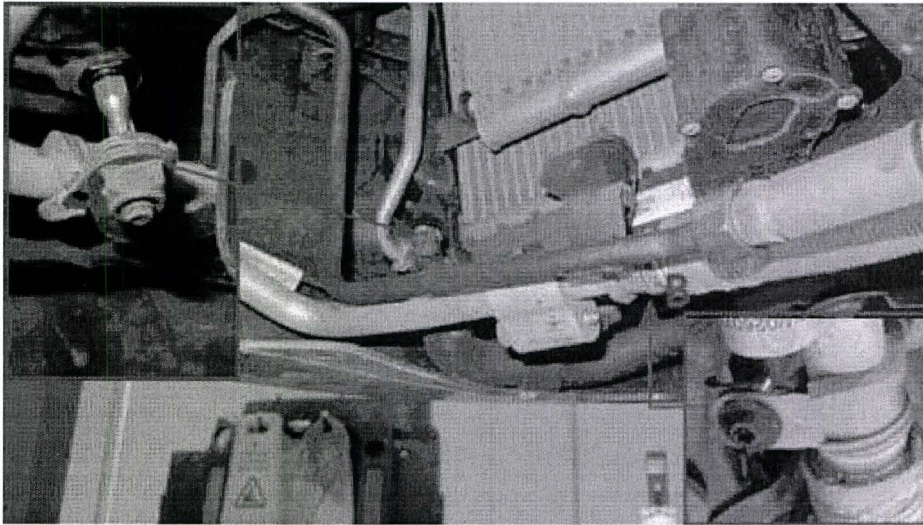

Figure 1
5. Referencing figure 1 identify the two 'P' clips (A and B) located in the front left hand wheel arch that require replacement
6. **Note:** A number of later cars in this campaign are expected to already have the correct clips fitted, figure 1 depicts the correct clips identified by a red band printed on the clip insert. Pipes fitted with clips carrying the red band do not required inspection and therefore will not require clip replacement.
7. Using a T30 bit loaded into a ratchet spanner remove the fastener securing P clip (A). Remove and discard clip A (see Figure 1)
8. Remove and discard clip B (see Figure 1)